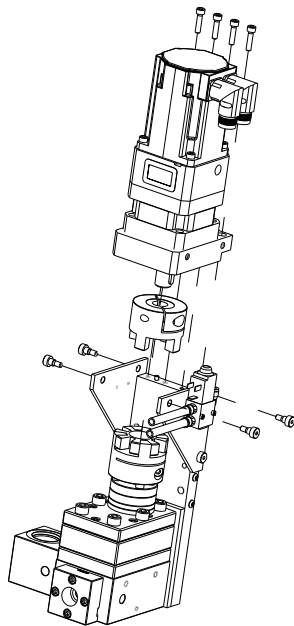

FIG. 20
3. Attach servo motor, gear head, and top plate to pump assembly. See FIG. 20.